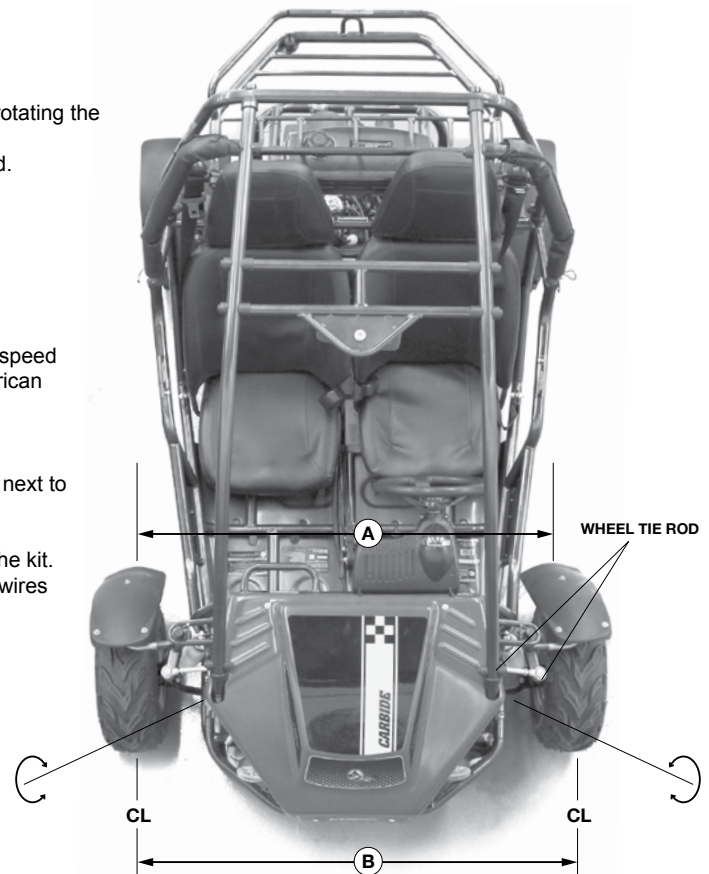

fig. C1 Toe Adjustment Diagram
C. Spark Plug (see fig. C1)
C. Front Wheel Alignment *(see fig. C1)*